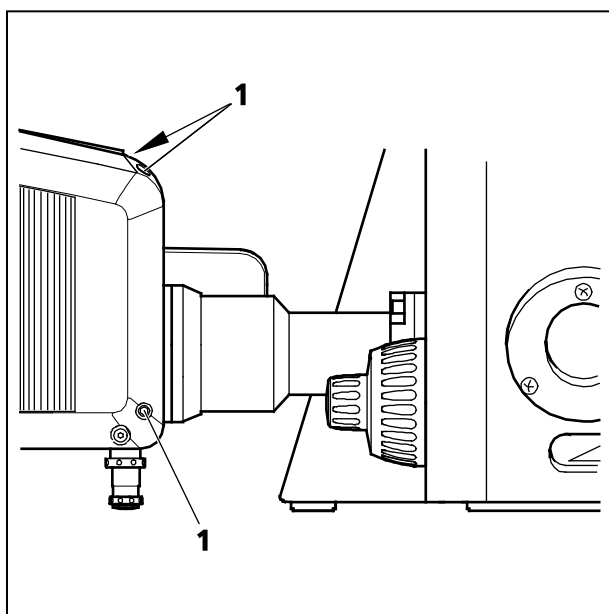
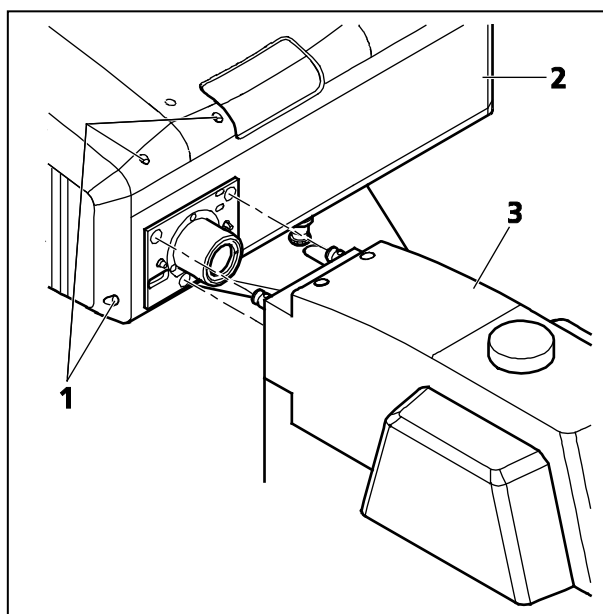

Fig. 6 Port connection between LSM and Axio Observer.Z1
Fig. 7 Port connection between LSM and Axio Examiner or Axio Imager.Z2
- Loosen the three fastening screws of the LSM 710 / LSM 780 (Fig. 6/1 and Fig. 7/1).
- Slowly pull the scanning module (Fig. 7/2) away from the microscope port or the tube (Fig. 7/3).
- Fasten the three fastening screws of the LSM 710 / LSM 780 (Fig. 6/1 and Fig. 7/1).